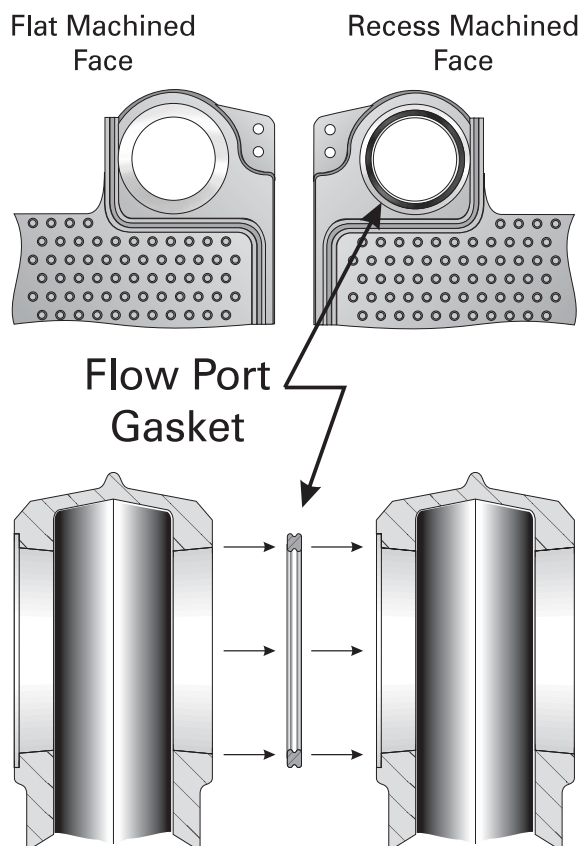

Figure 3.1: Flow Port Machining & Gasket
2. Check the area around the Flow Ports (Figure 3.1). Use solvent and a clean cloth to thoroughly clean the flat surfaces and recesses. All foreign matter must be removed to assure a proper seal when the sections are drawn together.
5. Place the Flow Port Gaskets in the recesses provided (see Figure 3.1). **Do not use adhesive.**